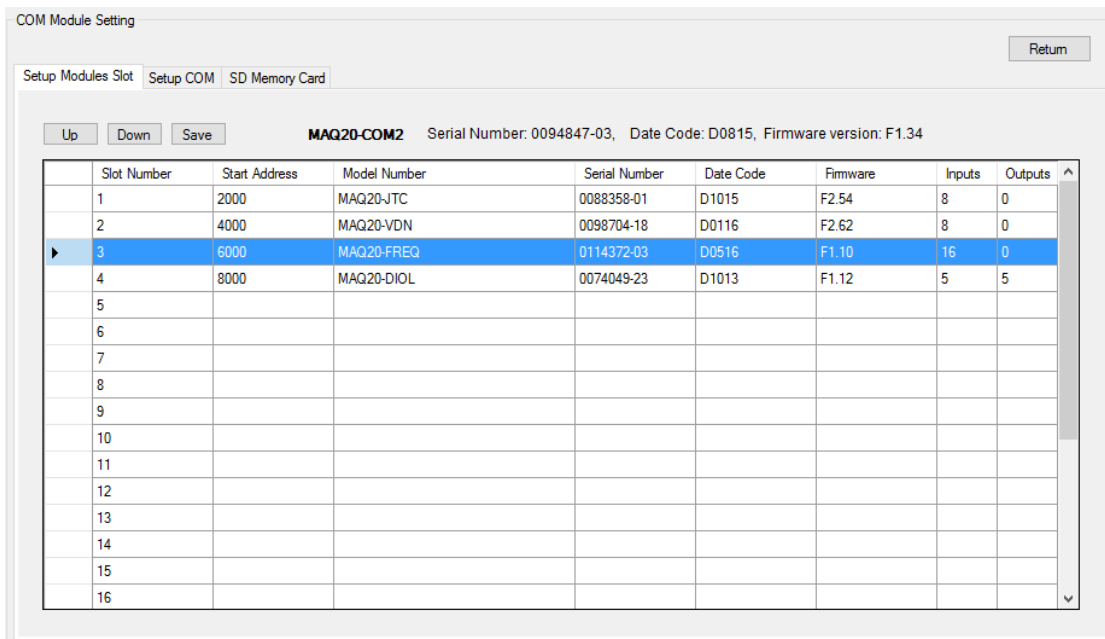

Figure 5: Module Registration using MAQ20-940 ReDAQ Shape for MAQ20
To view the registration sequence, double-click on the MAQ20-COMx graphic to obtain the system panel shown in Figure 5.
*Example:* A MAQ20-FREQ module with serial number 1234567-89 is installed in a system and has been assigned a Registration Number of 3, as in Figure 5. Read Frequency Data for Channel 0 and Counter Data for Channel 5.
*Example:* A MAQ20-FREQ module with serial number 1234567-89 is installed in a system and has been assigned a Registration Number of 3, as in Figure 5. Read Minimum and Maximum Frequency Data for Channel 0 and Maximum Counter Data for Channel 5. Reset the Channel 5 counter. Reset the Minimum and Maximum data registers.
*Example:* A MAQ20-FREQ module with serial number 1234567-89 is installed in a system and has been assigned a Registration Number of 3, as in Figure 5. Set EXC0 to +5V and set the default output of EXC3 to +5V.